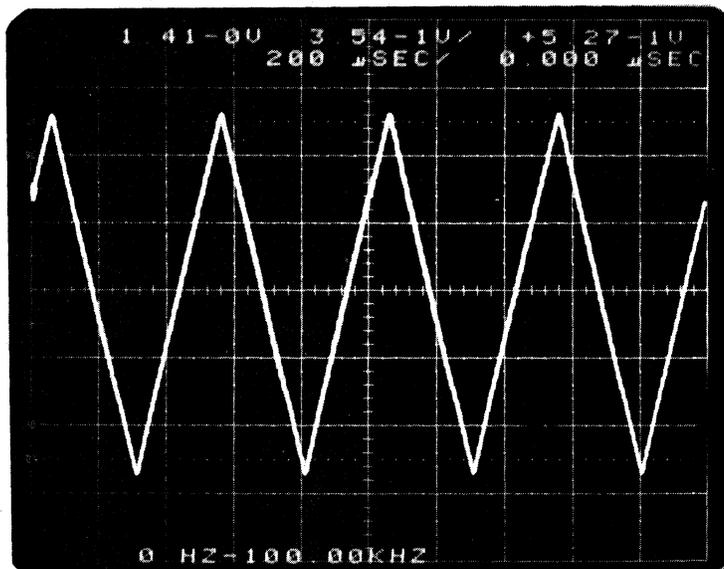

Fig. 4-5b Time Display of TEST Signal, 0 - 100 KHz SPAN
- c. Move VIEW to TIME (Fig. 4-5b). The display represents successive 2 msec-long blocks of the input waveform. The input signal was first bandlimited through a 100 KHz low pass filter, and then sampled at 256 KHz rate. The results are stored and then reconstructed to form an analog waveform for the CRT display. 128 samples per fundamental period of the triangle were taken so the reconstructed display is clearly defined.